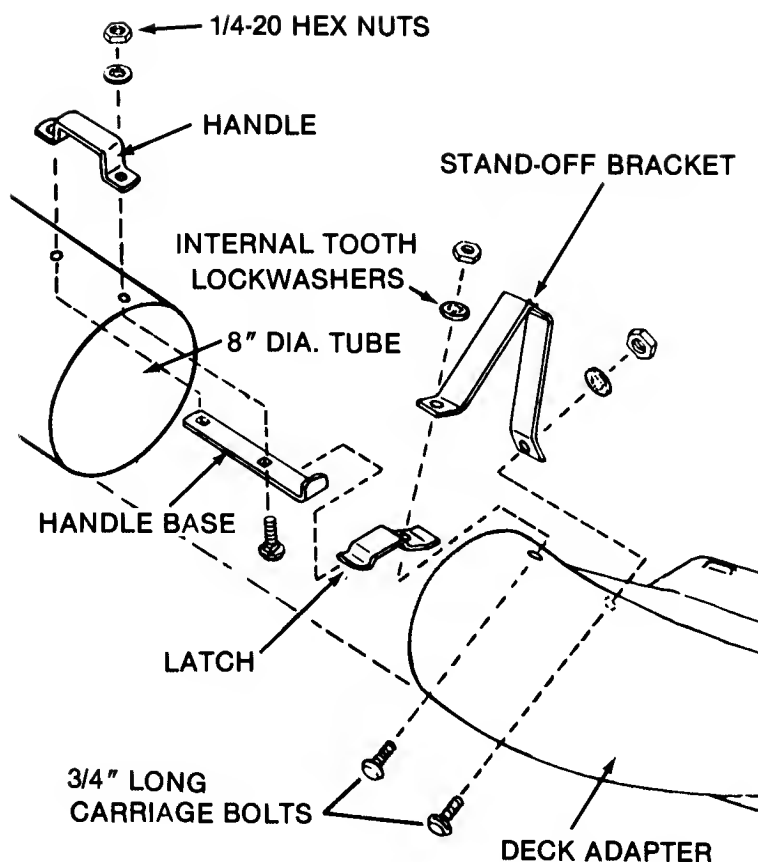

FIGURE 9 - TUBE HANDLE & BRACKET DETAIL
1. Assemble the tube latch and stand-off bracket to the adapter and secure with two of the 3/4" long carriage bolts (heads inside tube), 1/4 internal tooth lockwashers and 1/4" hex nuts as shown in figure 9.
2. Position the handle base inside the 8" diameter tube, and the handle on the outside, align holes and secure with two 3/4" long carriage bolts (heads inside), 1/4" internal tooth lockwashers and 1/4" hex nuts as shown in figure 9.